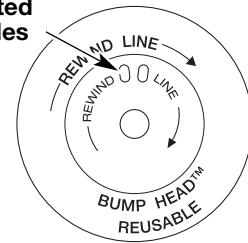

Fig. 16
**NOTE:** SplitLine™ can only be used with the inner reel with the slotted holes. Single line can be used on either type of inner reel. Use Figure 16 to identify the inner reel you have.